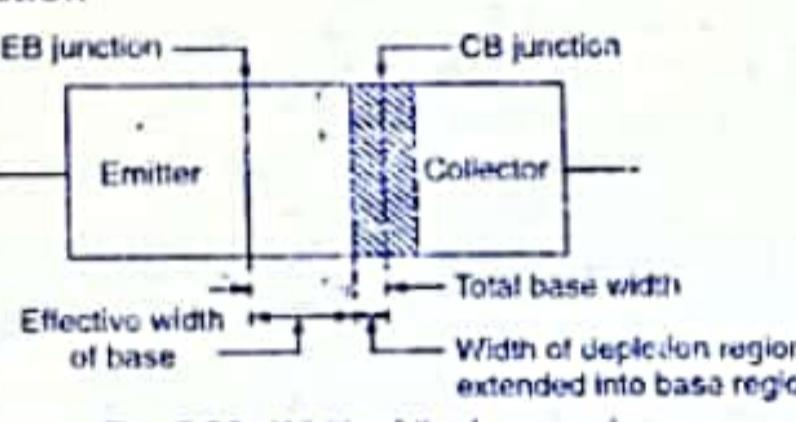

Fig. 5.28. Width of the base region
Considering figure 5.28 and the width of the EB junction region, the total base width is equal to the sum of the widths of the depletion regions extended into the base region from the collector and emitter side and the width of the region occupied by the free charge particles. But as the EB junction is forward biased, the width of its depletion region is very narrow. As the CB junction is reverse biased, the width of its depletion region is much larger. Thus neglecting the width of depletion region at the EB junction we can write :
- Now as  $V_{CB}$  is increased, the reverse voltage applied to the CB junction increases. This widens the depletion region at the collector junction. Due to this, effective width of the base region decreases as shown in figure 5.28.
- ④  $\beta$  &  $\alpha$  will increase with  $V_{CB}$ .
- ⑤ Minority current increases at CB junction.